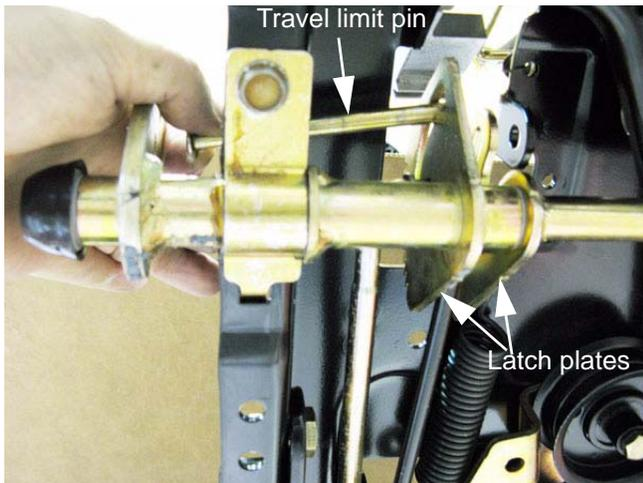

Figure 5.23
5. Withdraw the travel limit pin. See Figure 5.23.